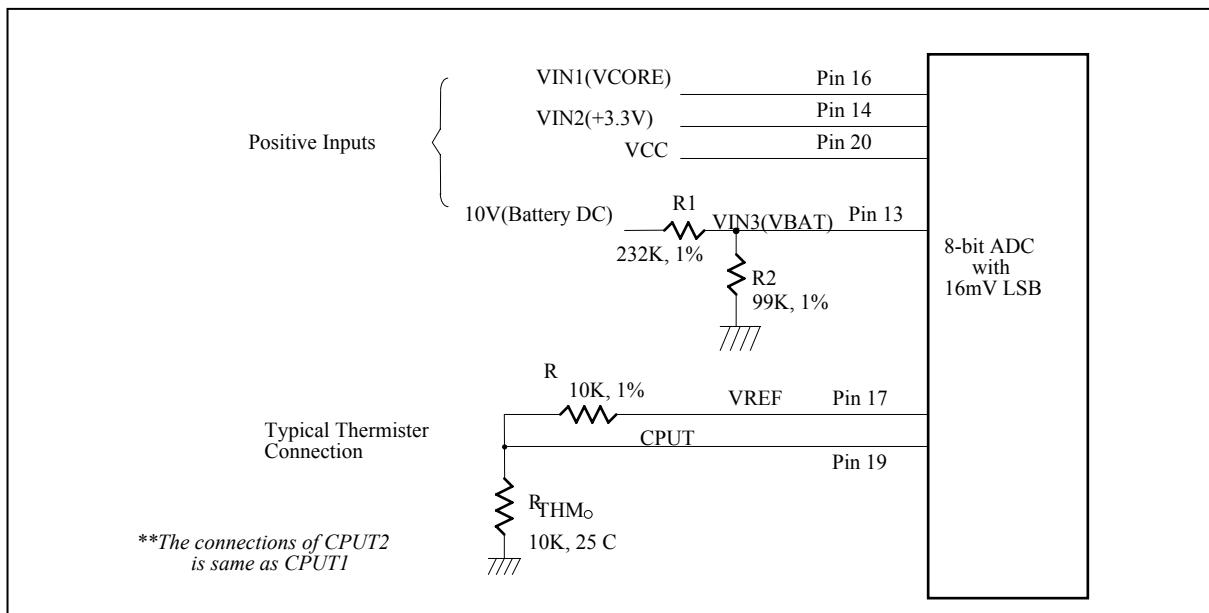

Figure. 10.
The maximum input voltage of the analog pin is 4.096V because the 8-bit ADC has a 16mV LSB. Really, the application of the PC monitoring would most often be connected to power suppliers. The CPU V-core voltage and +3.3V voltage can directly connected to these analog inputs. The 5VSB and battery inputs should be reduced a factor with external resistors so as to obtain the input range. As Figure 10 shows.
The W83L784R/G can connect three thermistors to measure three different environment temperature. The specification of thermistor should be considered to (1)  $\beta$  value is 3435K, (2) resistor value is 10K ohms at 25°C. In the Figure 10, the thermistor is connected by a serial resistor with 10K Ohms, and then connect to VREF (pin 17).